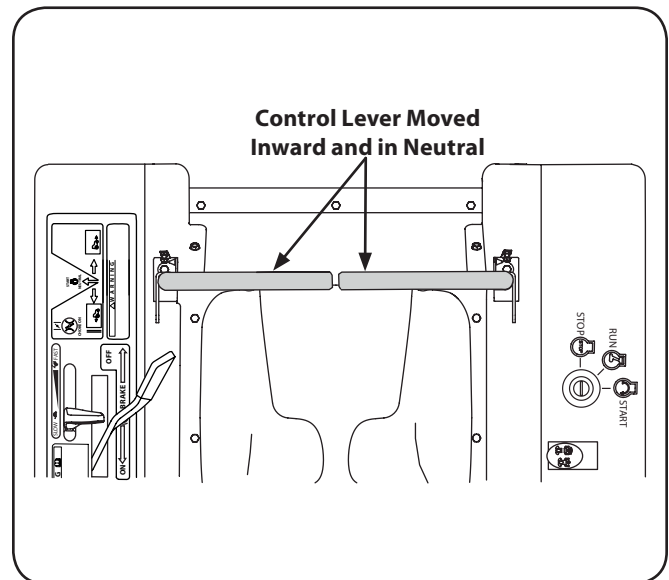

Figure 1-1
3. Move the RH and LH drive control levers inward in the neutral position. Refer to Figure 1-1.